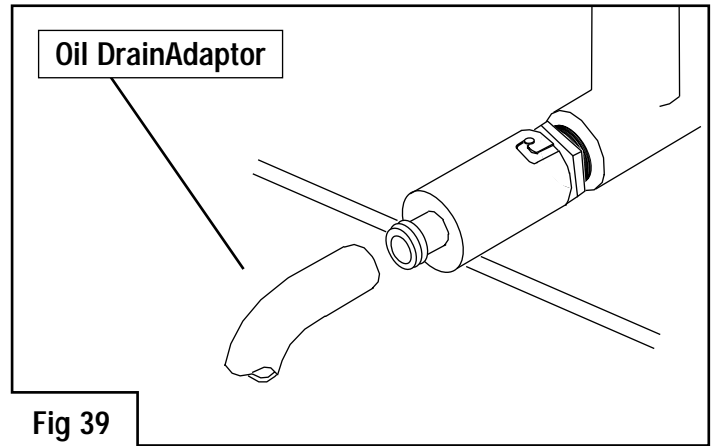

Fig 39
The C Series tractor has an oil drain adaptor (fig 39) located on the right hand (offside) of the engine. This is like a bayonet light fitting, which you push in and turn anti-clockwise to release. A short length of clear hose is supplied in the toolkit that fits on this adaptor so that waste oil can be poured into the can or bottle.
1. Locate the Oil Drain (fig 39).
3. Fit the short length of hose supplied over the nozzle of the adaptor (see fig 39) and direct the other end into a container large enough to take 2-litres of waste oil.